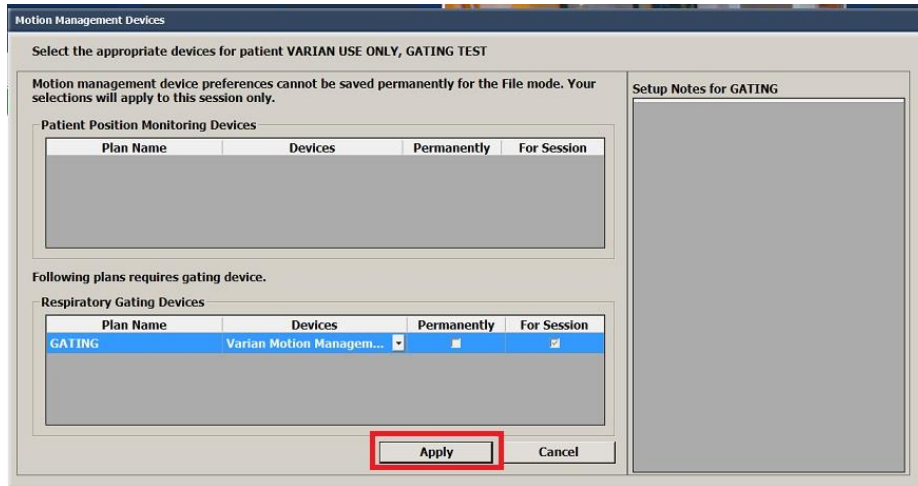

Figure 50: Motion Management Device Screen
6. Click Apply on the pop up Motion Management Devices window to accept preferences for current session only. (see Figure 50)